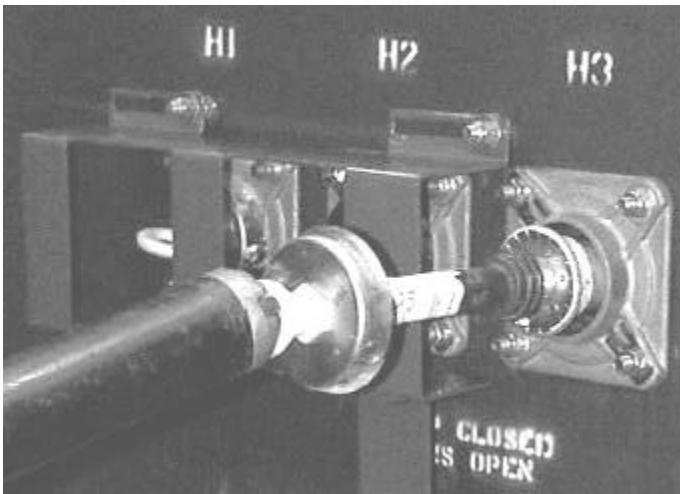

Figure 7. Fuse removal with a hot stick.
2. Remove the draw-out assembly using a hot stick and the pulling eye on the cap assembly, as shown in Figure 7. Carefully withdraw the assembly to avoid damaging the contacts.